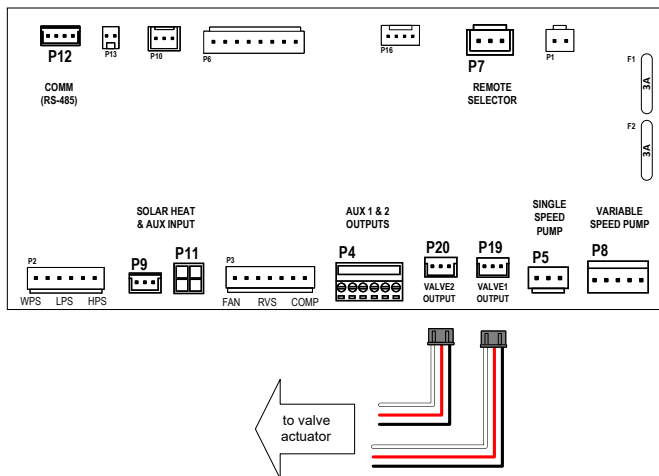

Figure 137. Wiring Valve Actuator Harnesses
2. Connect the field-supplied valve actuator harnesses to the terminals of the control board marked as "VALVE 1" [P19] and "VALVE 2" [P20]. Note that the rating of the control contacts is 0.75A at 24VAC. See Figure 137.